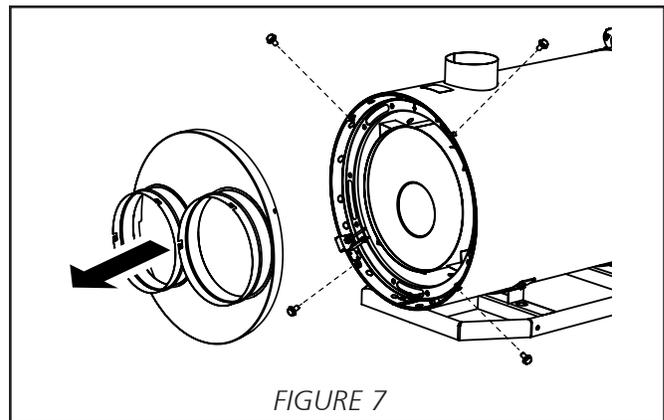

FIGURE 7
1. Remove the air ducting cone by removing the screws which secure it to the heater. See Figure 7.